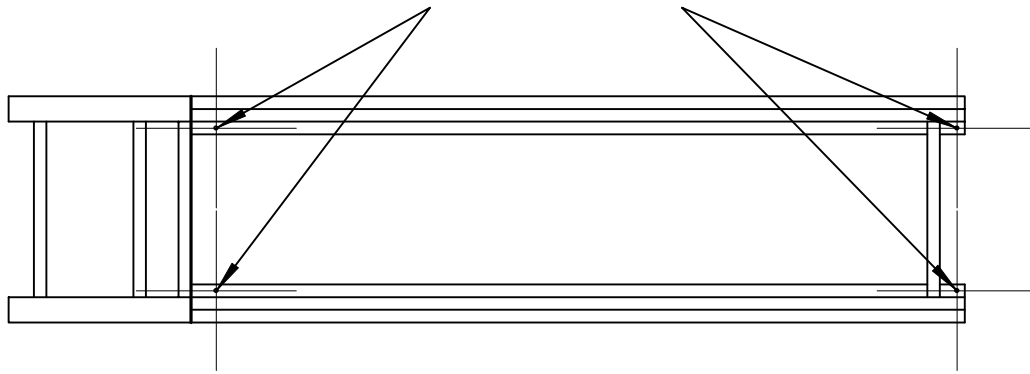

Figure 2
5. Using the 3/8" (10mm) concrete drill, mark and drill the four holes in the pit at the four mounting hole positions (see Figure 2 on Page 3). Clean the holes and surrounding area of any concrete dust; insert the anchor bolts. Check the roller set for level both front to back and side to side. Shim the roller set with steel shims if necessary to achieve a level condition ($\pm 1/4$ " off). Install the washers and nuts and tighten securely.